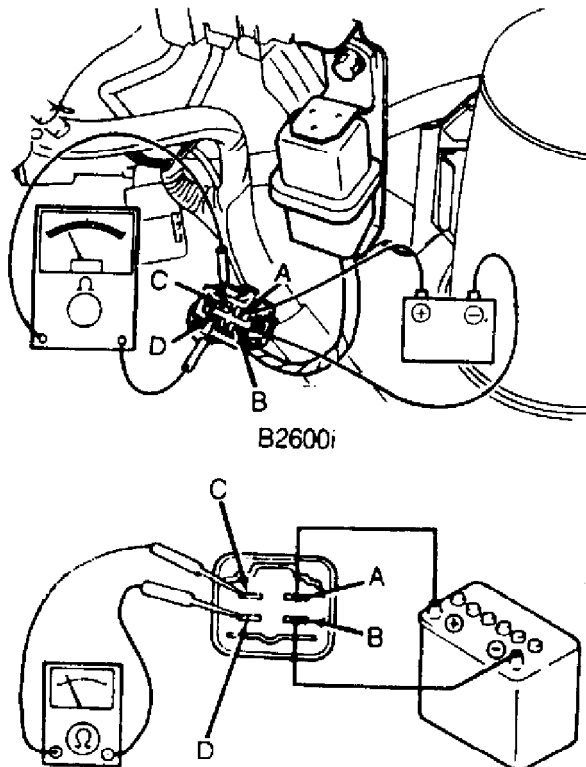

Fig. 41: Testing Main Relay (B2200 & B2600i)
2) If no sound is heard, unplug relay. Apply 12 volts to terminal "A", and ground terminal "B". See Fig. 41, 42 or 43.